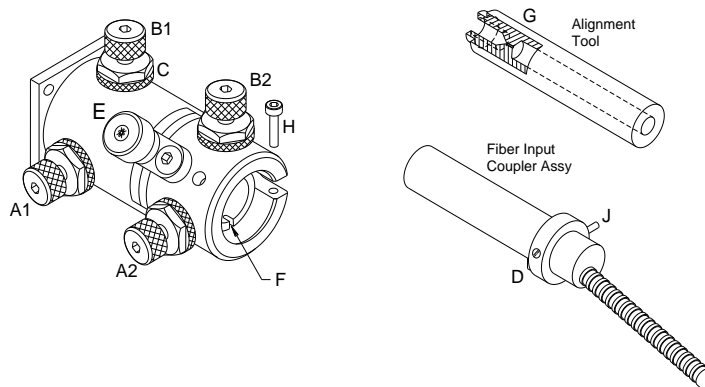

Figure 11-2: 3D exploded view of manipulator and fiber
1. Press locking mechanism **E** (see Figure 11-2) and insert alignment tool **G** with the pinhole (step) nearest to the laser. Release locking mechanism **E**.